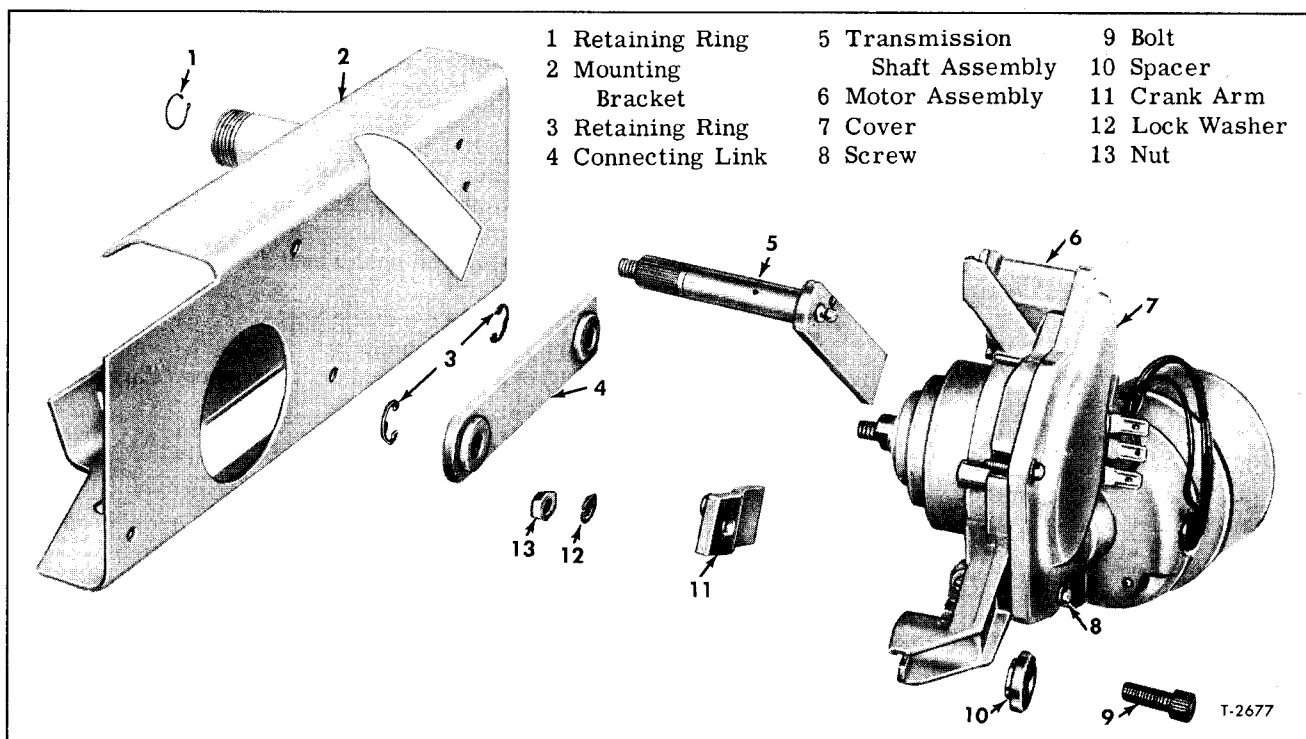
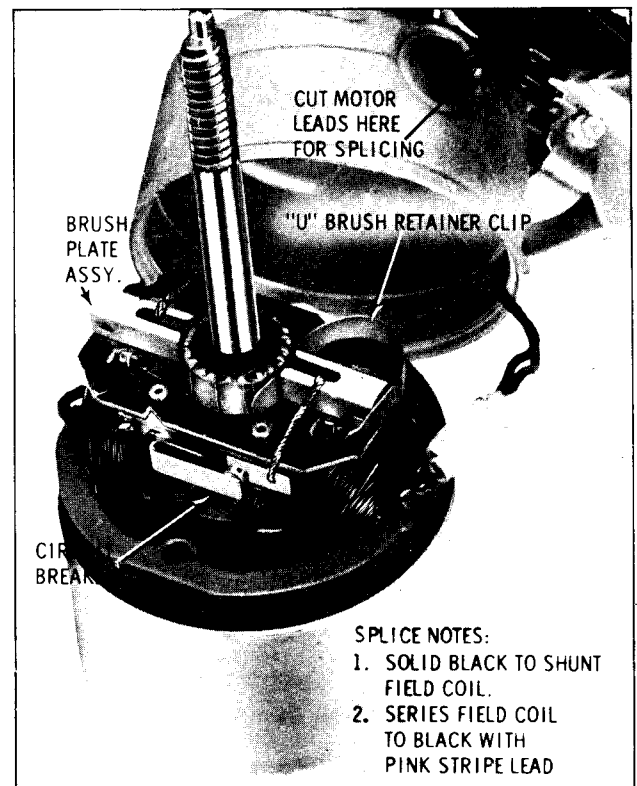
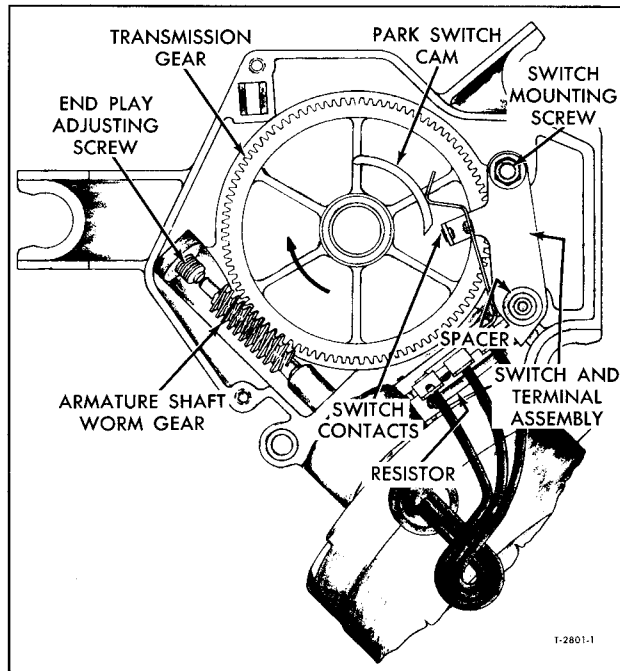

Figure 17—Wiper Motor and Bracket—Partially Disassembled
Figure 20—Armature, Field, and End Cap Assembly
Figure 22—Wiper Motor Gear Box Assembled
(Key Numbers in Text Refer to Figure 17)
1. Remove screws (8, fig. 17) securing gear box cover (7, fig. 17) and remove cover from motor assembly.
2. Remove retaining ring (4) from gear shaft (1). Remove end play washers (4) and outer spacer washer (5).
3. Remove screw securing "Park" switch (fig. 22). Remove switch, spacer, and terminal board.
4. Slide gear and shaft assembly (1) out of housing (2) and remove inner spacer (6).
NOTE: It may be necessary to remove armature end play screw (fig. 22) and insert a rod through opening to apply pressure against end of armature.
4. Unsolder black cotton-covered lead from circuit breaker (fig. 20).
6. Hold brushes away from armature commutator and slip brush holder over commutator and seat on mounting tabs (fig. 20).
1. Install inner spacer washer (6) on gear and shaft assembly (1).
2. Apply lubricant, Texaco Multifax No. 2 or Sun Oil Co. Prestige No. 42 or equivalent, to gear and shaft assembly and worm shaft (fig. 20).
3. Slide gear and shaft assembly into gear box housing (2), install outer spacer (5), end play washers (3) and retaining ring (4). Refer to "Adjustments" in this section for end-play.
4. Carefully install switch and terminal board (fig. 22). Secure switch using mounting screw.
5. Position spacer (fig. 22) on switch and install cover (7, fig. 17) and secure with screws (8, fig. 17).
NOTE: Key numbers in text refer to figure 17.
1. Check gear and shaft assembly (1) for wear and damaged gear teeth. If gear or shaft is damaged assembly is replaced as a unit.
2. Inspect "Park" switch and terminal board assembly (fig. 22) for burned, broken or sticking contact points. Contact points may be cleaned using a thin, fine-cut contact file. Replace parts as required.
1. Loosen adjusting screw lock nut and tighten adjusting screw (fig. 22) until finger-tight.